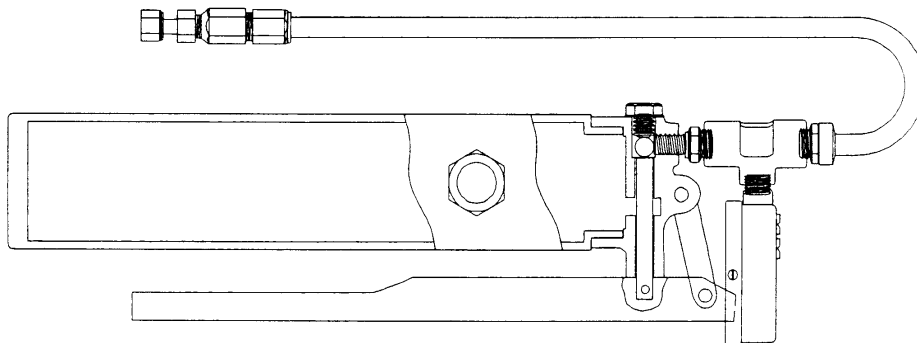

FIGURE 7-6: FORCE FEED LUBRICATION HAND PURGE PUMP (G-7162)
- Force Feed Lubrication Hand Purge Pump (G-7162). See Figure 7-6: on Page 7-4